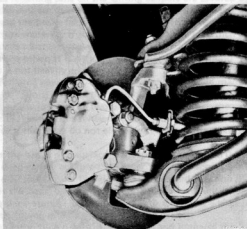

Fig. 9.5. Brake caliper attaching bolts (Sec. 4)
- 5 Finally, undo the two bolts which secure the caliper to the wheel support (Fig. 9.5).